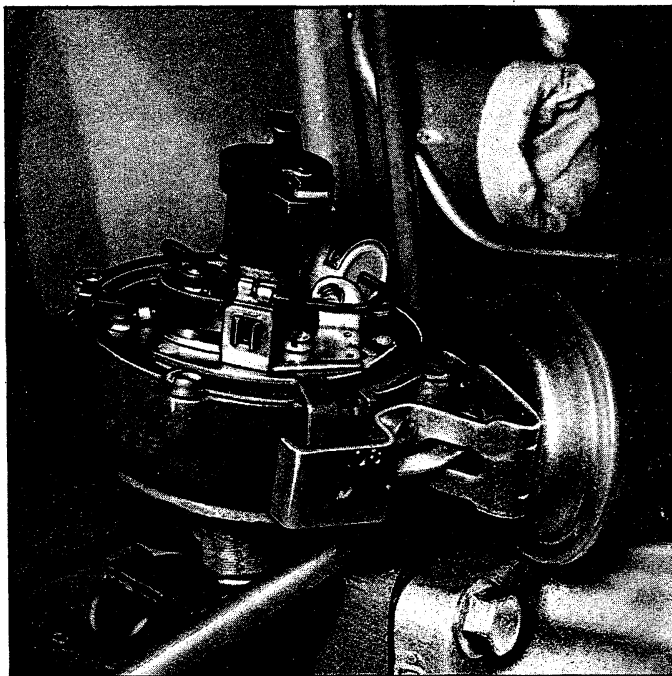

Fig. 15i—Six Cylinder Engine Distributor
2. Push the distributor down into position in the block with the housing in a normal "installed" position (fig. 15i).
2. Position distributor to opening in block in normal installed attitude (fig. 15i), noting position of vacuum control unit.